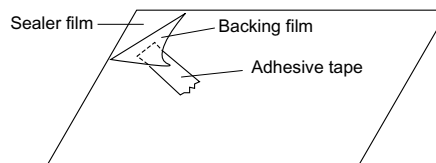

Figure C-8. Sealer film
1. Put the adhesive tape on the backing film of the sealer film as shown in Fig. C-8